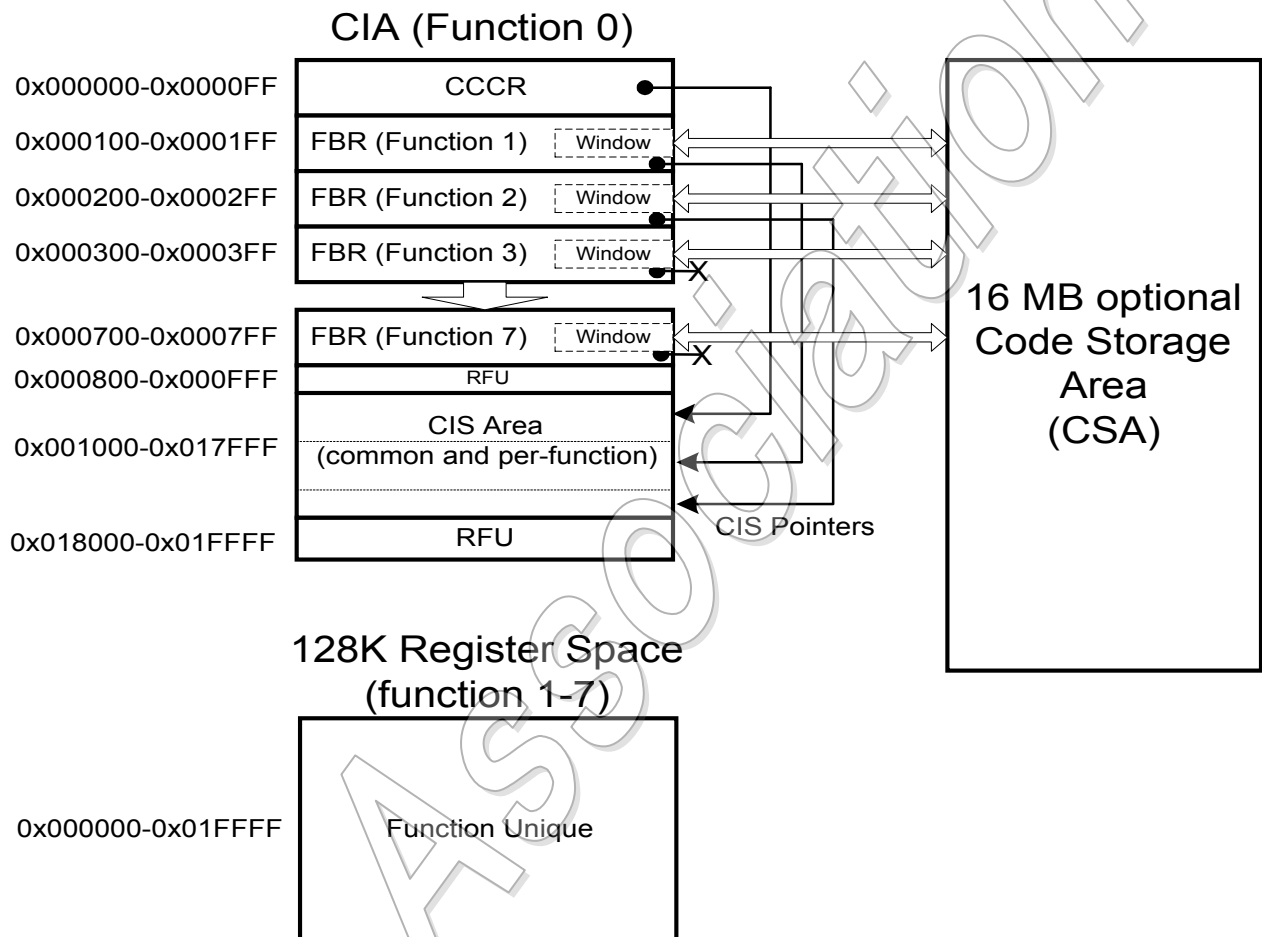

Figure 4 SDIO Internal Map
Each SDIO card may have from 1 to 7 functions plus one memory function built into it. A function is a self contained I/O device. I/O functions may be identical or completely different from each other. All I/O functions are organized as a collection of registers. There is a maximum of 131,072 ( $2^{17}$ ) registers possible for each I/O function. These registers and their individual bits may be Read Only (RO), Write Only (WO) or Read/Write (R/W). These registers can be 8, 16 or 32 bits wide within the card. All addressing is based on byte access. These registers can be written and/or read one at a time, multiply to the same address or multiply to an incrementing address. The single R/W access is often used to initialize the I/O function or to read a single status or data value. The multiple reads to a fixed address are used to read or write data from a data FIFO register in the card. The read to incrementing addresses is used to read or write a collection of data to/from a RAM area inside of the card. Figure 4 shows the mapping of the CIA and optional CSA space for an SDIO card.
The SDIO card has a fixed internal register space and a Function unique area. The fixed area contains information about the card and certain mandatory and optional registers in fixed locations. The fixed locations allow any host to obtain information about the card and perform simple operations such as enable in a common manner. The function unique area is a per-function area, which is defined by the vendor and different for each SDIO function. Figure 4 shows the internal map of an SDIO card with multiple functions.